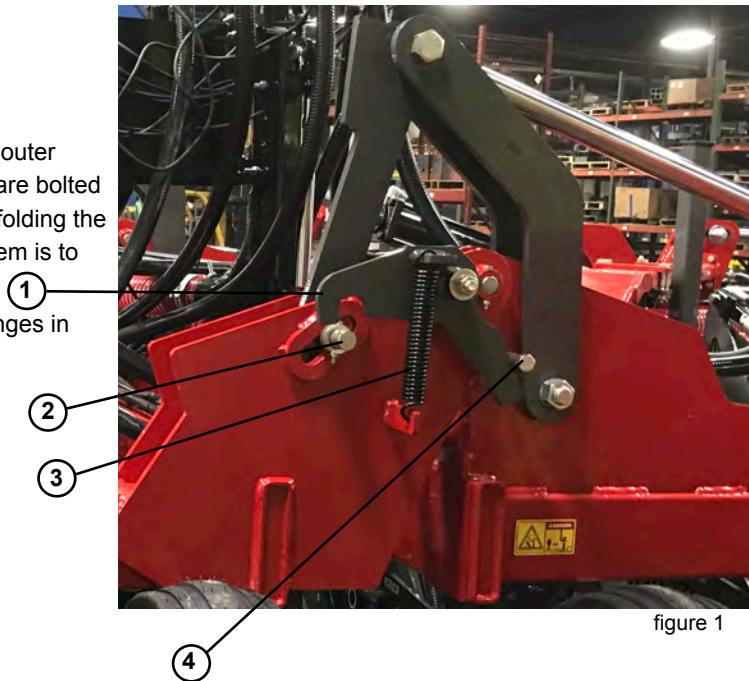

figure 1
- (1) Latch
- (2) Latch pin
- (3) Spring
- (4) Latch stop
Figure 1 shows the latch system with the outer wing unfolded. Make sure items 1 thru 4 are bolted tightly and secured before folding and unfolding the outer wing. The purpose of the latch system is to make sure the outer wing folds and unfolds smoothly without any abrupt changes in the folding speed during the fold process.